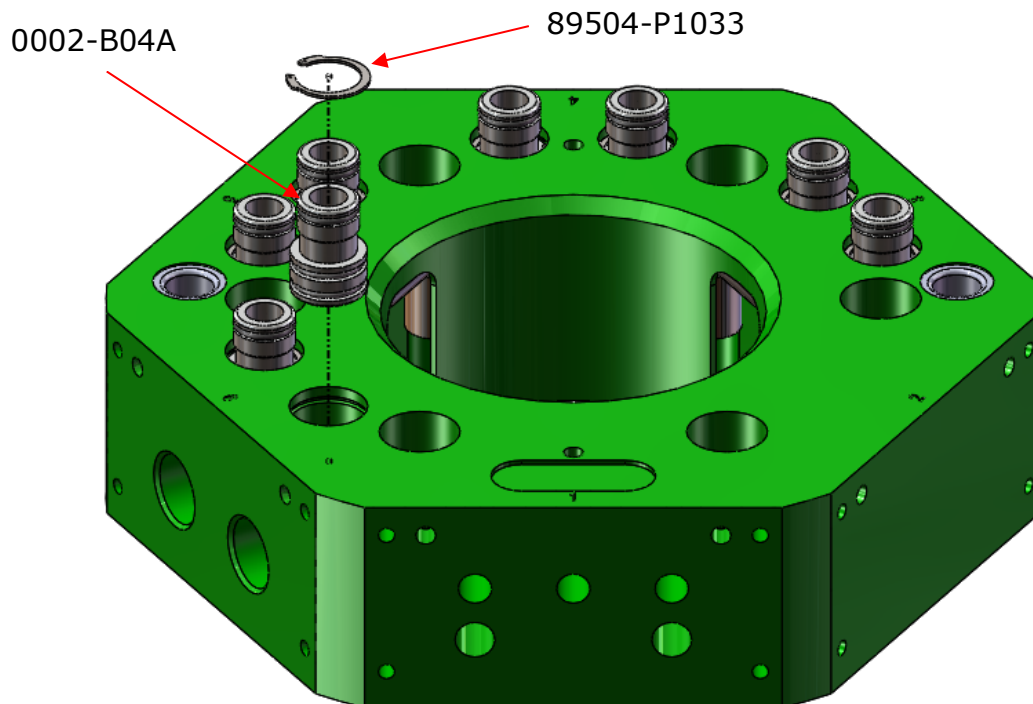

Figure 10.2.2-1. Air Valve Fitting Replacement
4. Push the valve fitting assembly into the valve fitting hole by hand until it bottoms out in the hole. Ensure the proper orientation of the valve fitting as shown in Figure 10.2.2-1.